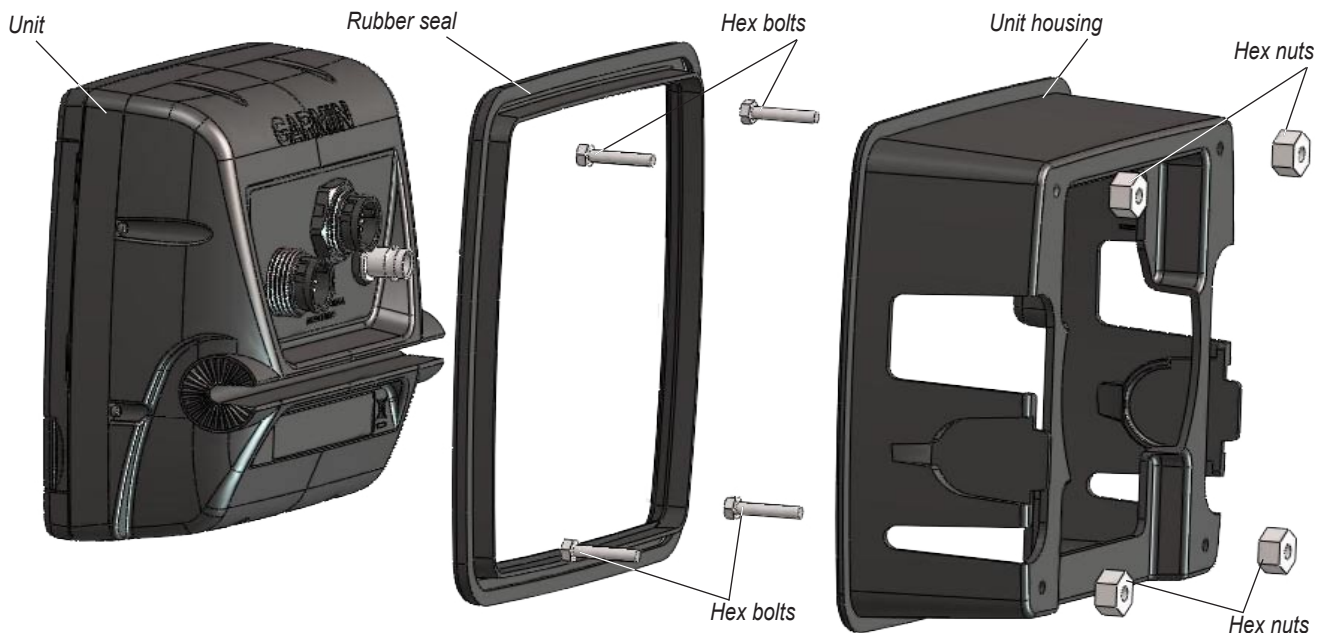

Figure 1
2. Assemble the flush mount hardware (see Figure 1):